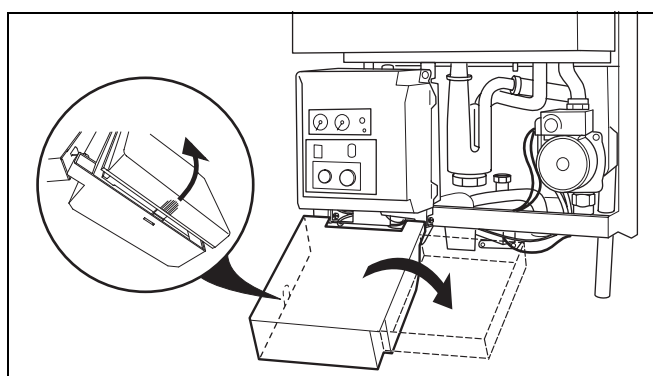

Fig. 19 Open back of the burner-control unit
- Open the back of the burner-control unit to the right (fig. 19).